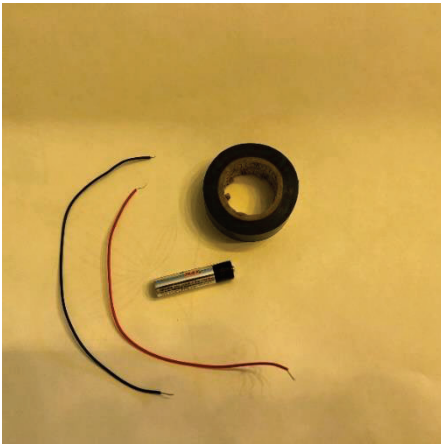

Figure 8-6: Supplies 1.5V battery, tape, and 2 wires
- **See Figures 8-6 through 8-11**